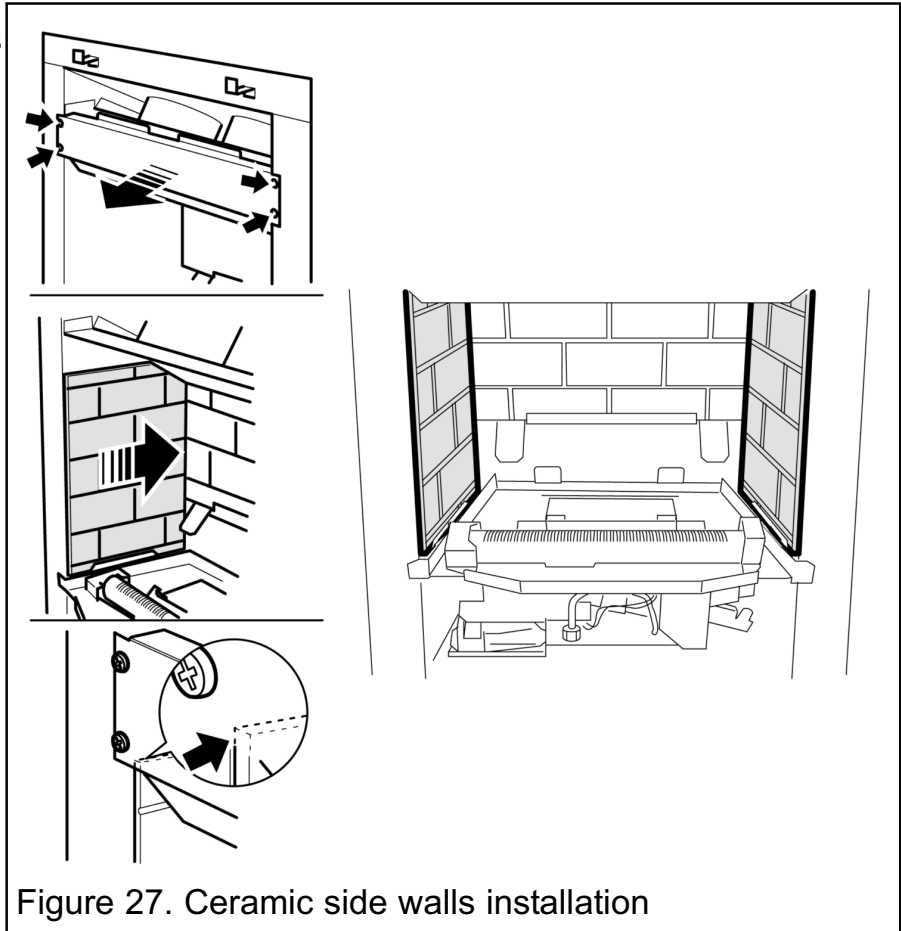

Figure 27. Ceramic side walls installation
2. Remove four screws from the spillage plate sides (See figure 27).
The bottom edges of the walls should rest in the ledges at the sides of the firebox. Slide them in from the front and ensure that they touch the rear wall. The friction between the side walls and the rear wall should hold the side walls in position (See figure 27)